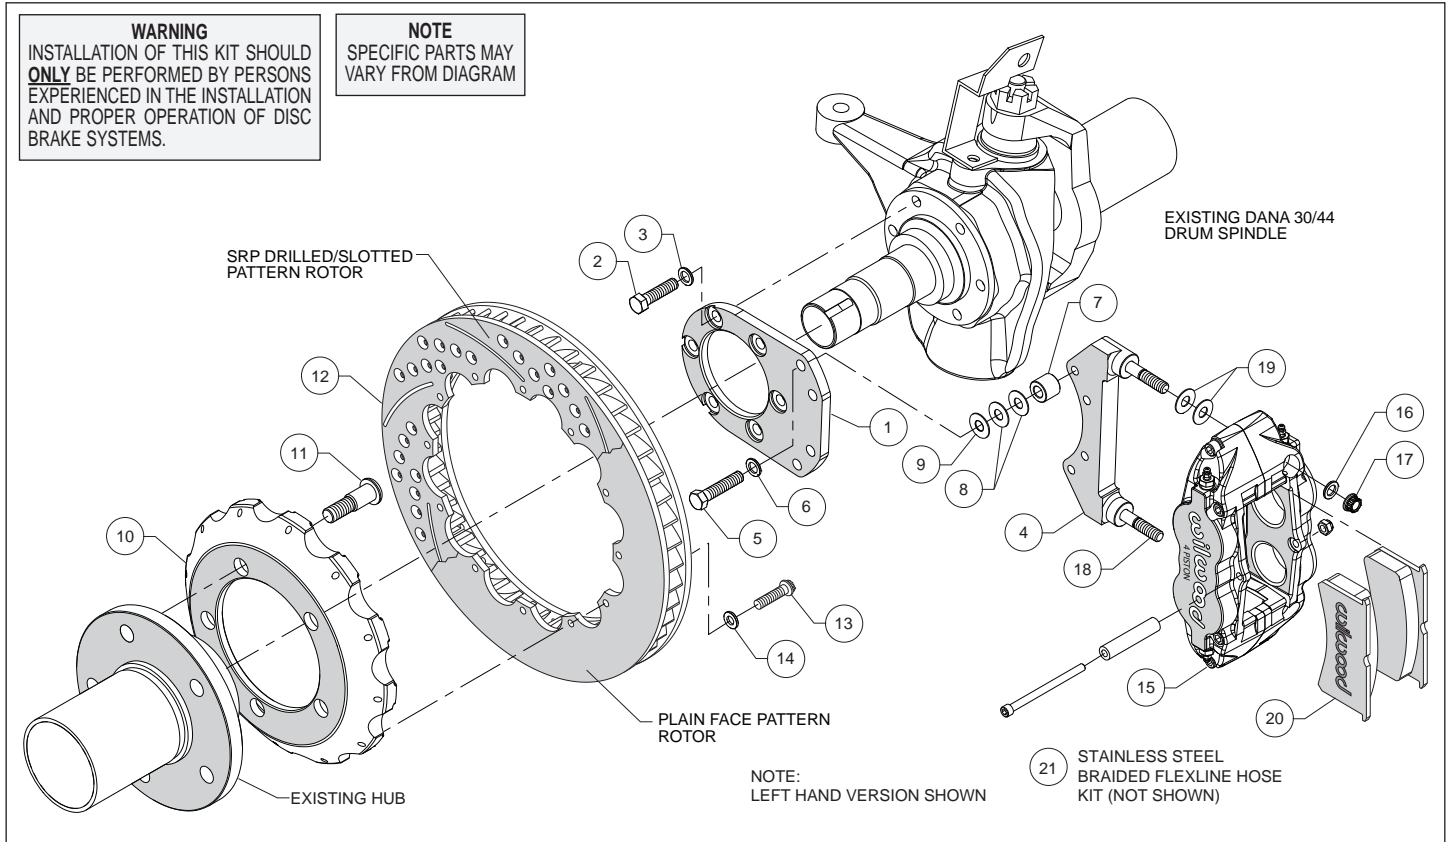
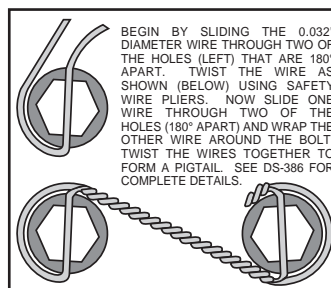

Figure 1. Typical Installation Configuration
Figure 3. Safety Wire Diagram
**Assembly Instructions** (numbers in parenthesis refer to the parts list and Figure 1 on the preceding pages):
- Orient the flat mount bracket (1) as shown in Figure 1 and Photo 1, and install using bolts (2), and washers (3). Ensure that the counterbored holes in the bracket are facing outboard, Figure 1. Temporarily tighten the mounting bolts. **NOTE:** *The bracket must fit squarely against the mount bosses on the upright.* Inspect for interference from casting irregularities, machining ridges, burrs, etc. Remove bolts one at a time, apply red *Loctite*® 271 to the threads and torque to 40 ft-lb.
- The caliper mount bracket (4) should initially be installed with clean, dry threads on the mounting bolts. Orient the bracket as shown in Figure 1 and Photo 2, and install using mount bolts (5) and washers (6). Initially place two .035" thick shims (8) and spacer (7) on each bolt between the flat and caliper brackets, Figure 1. Temporarily tighten the mounting bolts. Later, after the caliper alignment has been checked, the mount bolts will be secured using red *Loctite*® 271.
- Orient the hat (10) and the OEM hub as shown in Figure 1 and Photo 3. **NOTE:** *The hat must fit flush against the axle hub or excessive rotor run out may result.* Press fit the wheel studs (11) thru the holes in the hat and into the existing hub. **NOTE:** *We recommend this procedure be performed by a qualified machinist.*
- Orient the rotor (12) and the hat/hub assembly as shown in Figure 1 and Photo 4. Attach rotor to hat using bolts (13) and washers (14). Using an alternating sequence, apply red *Loctite*® 271 to the threads, and torque to 155 in-lbs. For an added measure of security, the bolts may be safety wired using standard 0.032 inch diameter stainless steel safety wire as shown in Figure 3.
- Lubricate the caliper mounting studs (18) with lightweight oil. Initially place two .035" thick shims (19) on each stud as shown in Figure 1 and Photo 5. Mount the caliper (15) onto the bracket (4) using lock nuts (17) and washers (16), Figure 1. Temporarily tighten the lock nuts and view the rotor through the top opening of the caliper. The rotor should be centered in the caliper, Photo 6. If not, adjust by adding or subtracting shims (8 and/or 9) between the spindle bracket and caliper bracket. Always use the same amount of shims on each of the four mounting bolts. Once the caliper alignment is correct, remove the bracket to bracket mounting bolts (5) one at a time, apply red *Loctite*® 271 to the threads, and torque to 35 ft-lb.